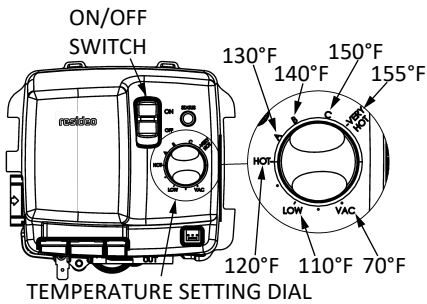

Figure 30 - Gas control valve.
- 3 Set the thermostat to the lowest setting by turning the knob to “VAC”. See Figure 30.
- A. Set the thermostat to the lowest setting by turning the knob to “VAC”. See Figure 30 - Gas control valve.
- A. Set the thermostat to the lowest setting by turning the knob to “VAC”. See Figure 30.